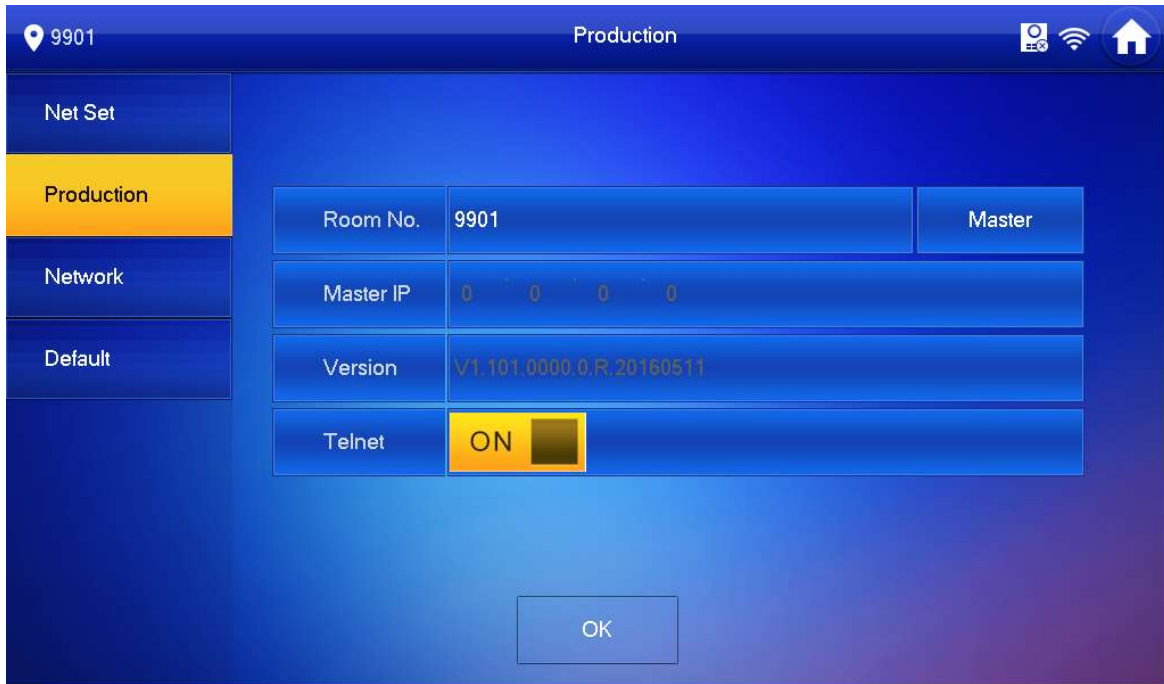

Figure 4-5
- If you want to set this VTH to be master VTH, then you shall select Master. Fill in room no., press OK to save, see Figure 4-5.